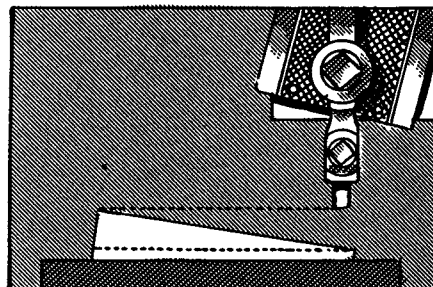

FIG. 372
10. Stop the machine and move the work to the left of the tool (Fig. 372).